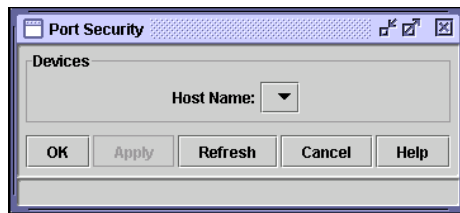

Figure 5-22 Port pop-up menu: Port Security
- ▶ Port Security (Figure 5-22 on page 38)